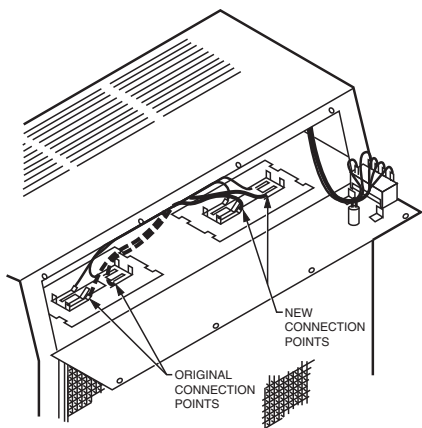

Fig. 16. Use the sheetmetal radio frequency interference shield with F56 and F59.
- ❑ On the F54C, move the red ionizer and black collector leads from one to the other contact board. See Fig. 16.